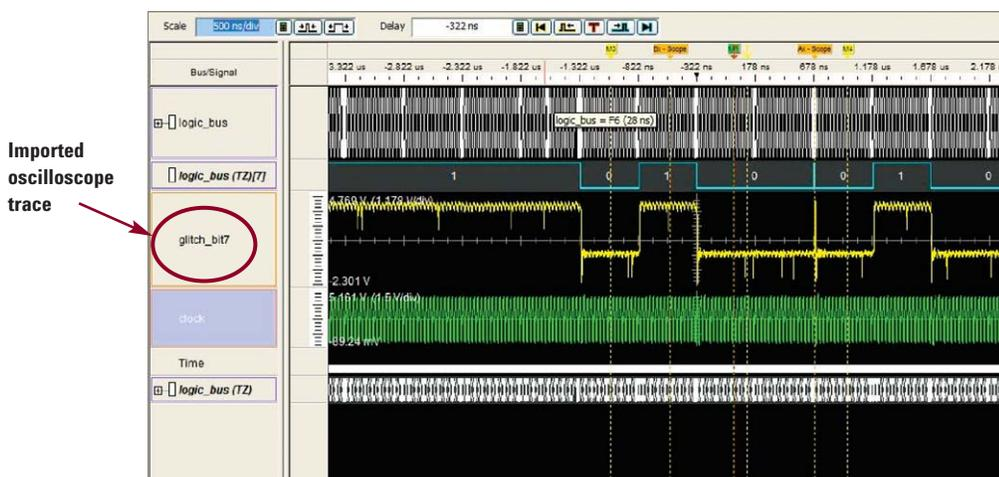

Figure 2. Using View Scope, you can see a deep oscilloscope trace integrated into the logic analyzer display.
Figure 2 shows an oscilloscope trace, glitch\_bit 7 of logic\_bus (TZ)[7] imported to the logic analyzer waveform window using the View Scope feature, the industry's first cost-effective solution that connects scope and logic-analyzer measurements using off-the-shelf BNC and LAN cables.